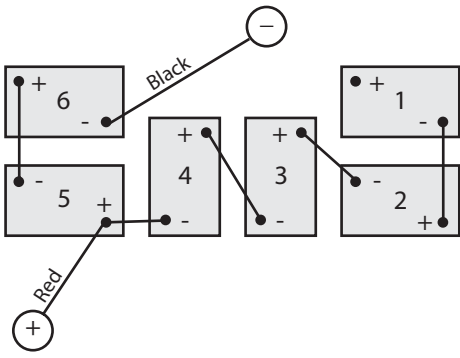

Figure 1
2) After the routing is complete, use the cable ties included in this kit to secure the light harness to the frame or existing main harness. Mount the light switch in the dash (Figure 1 & 2) using a 1/2" drill bit. For a tighter fit a 31/64" bit will work for the light switch hole.